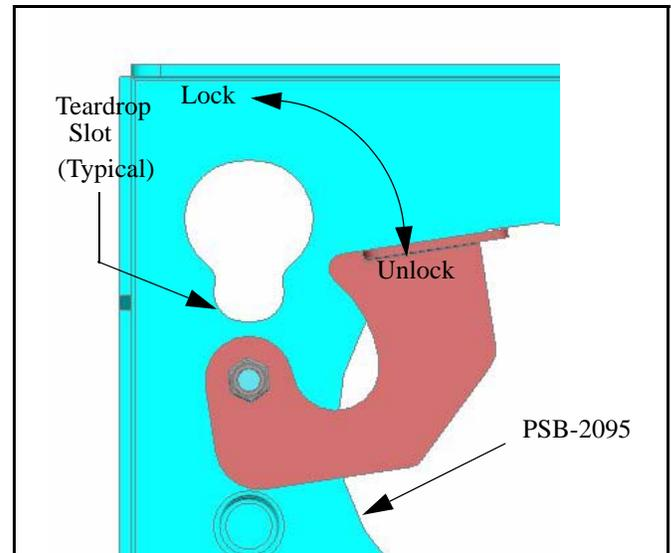

Figure 10: Locking Device
1. Make sure power is not supplied (turned off) to the display and the locking device is in the unlocked (down) position (See Figure 10:) before attempting to mount the display.
3. Secure the mounting bracket to the mount by completely engaging the locking device (See Figure 10:).